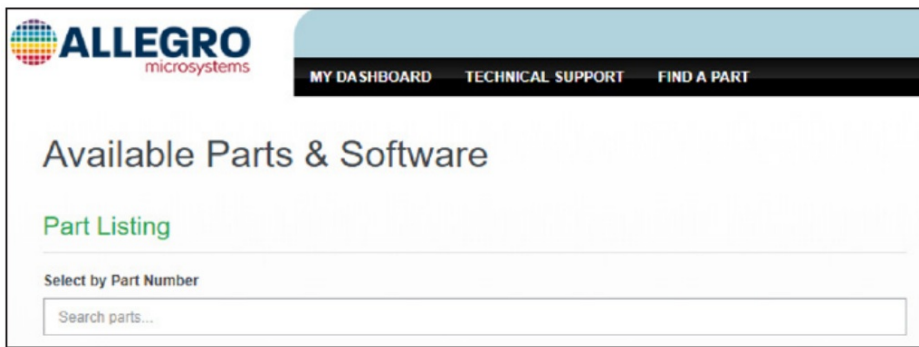

Figure 4: “Select by Part Number” on the Available Parts & Software page
5. Search for “ACS70311” in the “Select by Part Number” search bar shown in Figure 4.